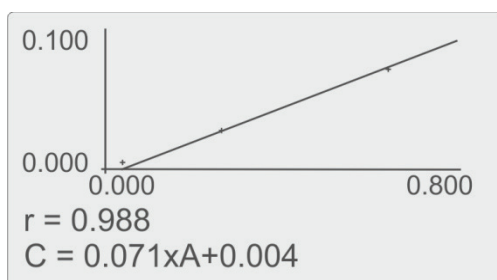

Figure 14 – Construction of the curve
3. The field for entering the concentration of the consecutive standard (Figure 14) will appear on the display. The cursor is on the first zero of the numerical value of the concentration consisting of six character locations.